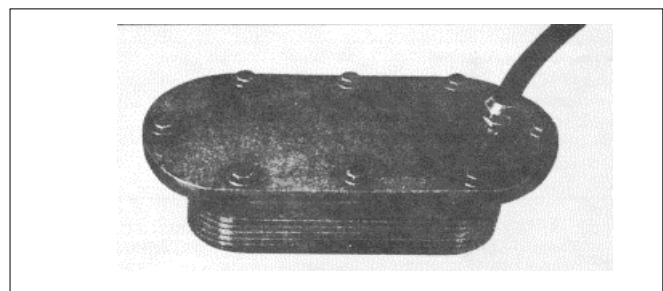

Fig. 2
- (1) Make a suitable plate and attach it to the flanged side of the oil cooler core. Use a gasket made from rubber to ensure a tight seal. Drill and tap the plate to permit an air hose fitting to be attached at the inlet side of the oil cooler core (Fig. 2).
- (2) Attach an air hose and apply 75-150 psi air pressure. Then, submerge the oil cooler core and plate assembly in a tank of heated water (180°F). Any leaks will be indicated by air bubbles in the water.